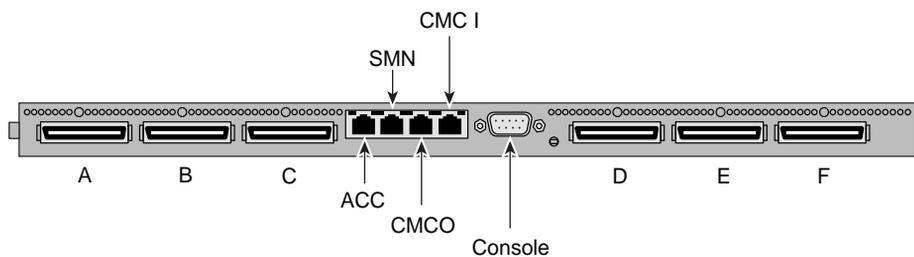

Figure 1-2 UV 100 CMC Connections
- A direct ethernet connection to a CMC, see Figure 1-2 (you must connect to ACC).
- A serial connection to the “Console” port (see Figure 1-2) on the CMC.
- An in-rack system console can be directly connected to the optional system management node via VGA and PS2. You can then log into the SMN and perform system administration either through CLI commands or via the SGI Management Center interface. Note that the CMC ethernet connect port, (labeled **ACC** - see Figure 1-2 on page 4) requires connecting to a network with a DHCP server if the SMN node is not used. The CMC is factory set to DHCP mode and thus has no fixed IP address and cannot be accessed until an IP address is established. If unknown, the IP address must be generated by accessing the CMC directly using a serial connection.